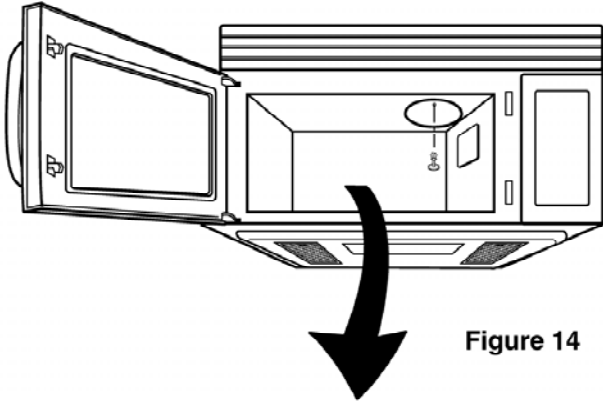

Figure 14
E. REMOVING STIRRER FAN (Figures 14 and 15)
- (1) Remove one rivet ASS'Y securing it to the oven upper plate by using knife blade.
- (2) Rotate slightly and pull out the stirrer fan cover.
- (3) Remove the stirrer fan.